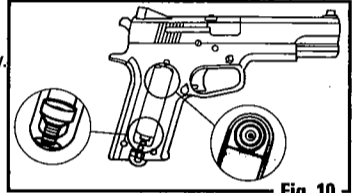

Fig. 10
- Your soft air pistol will work best if you put a drop of Crosman Pellgunoil directly on the tip of a CO2 cartridge before inserting and on the piercing lever (Fig. 10). **DO NOT** use a petroleum distillate based oil or solvent and **DO NOT** over-oil as this can cause damage to your soft air pistol.